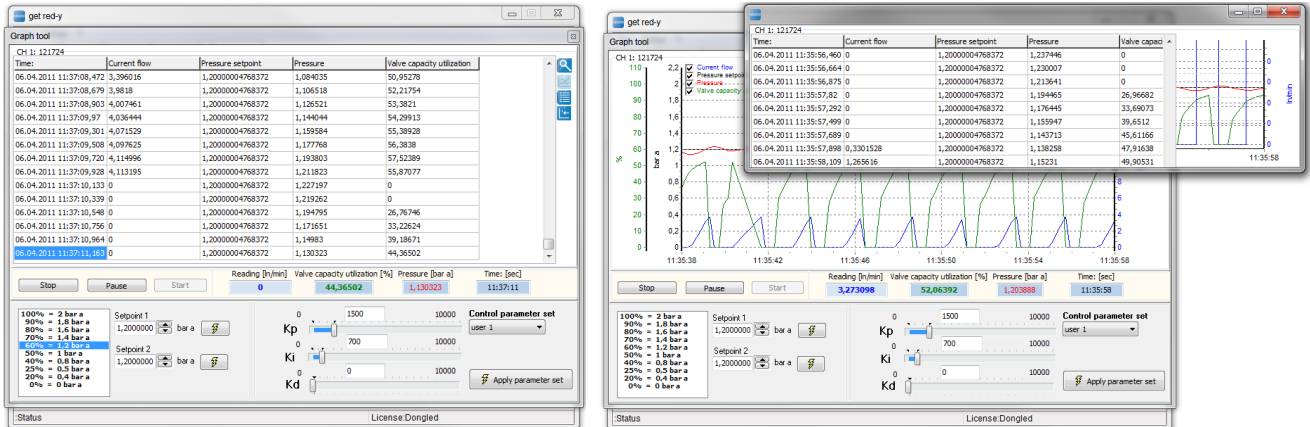

Figure 35: Representation of the measured values in tabular form (left) and representation of the data in separate windows (right).
-  The data is represented in tabular form (see Figure 35).
-  The data is represented in a separate window (see Figure 35 right). This is quite helpful if you have a second monitor or if you wish to show the data in one window as a table and in the other window as a diagram